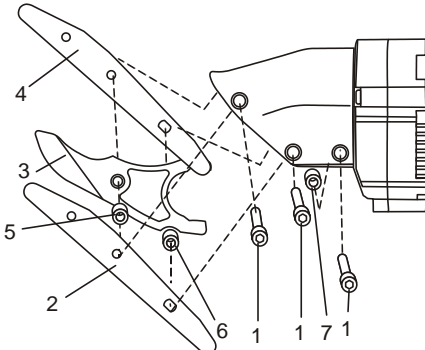

Fig. 5
1. Remove all three blade screws (1) (Fig. 5).